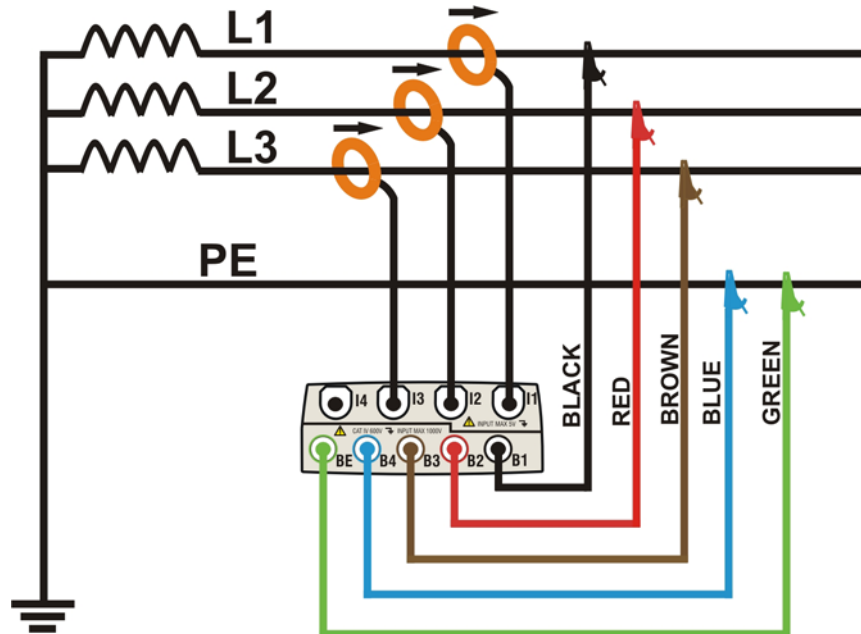

Fig. 206: Meter connection in a three phase 3-wire system
2. Connect voltage test leads on Phases L1, L2, L3, and Ground cables respecting the colours as shown in Fig. 206. **Verify the result "123" at display relative to a correct phase sequence indication** (see § 5.2.1) and perform the corrections if necessary.
3. Connect the transducer current clamps on Phase L1, L2, L3 cables as shown in Fig. 206 respecting the clamp's arrow direction indicating the current standard sequence from generator to load. **On Real Time Values' section screens always verify the positive value of Active Power and the power factor relative to load which should be normally inductive** before starting a recording. Reverse the clamp by 180 degrees on cables in case of negative readings.